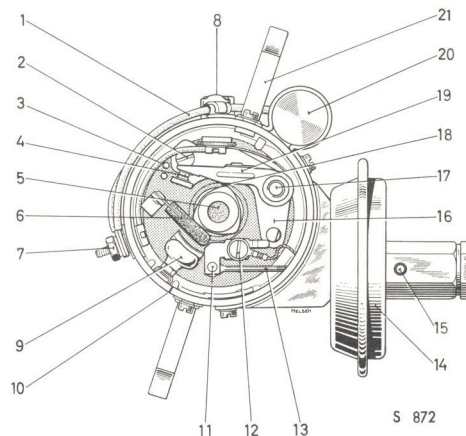

Figure 22. Ignition distributor
Contact points and gaps should be inspected every 6,000 miles (10,000 km). Be sure that the contact surfaces are clean and not so burned that they must be replaced. The correct gap of 0.3—0.4 mm (0.012—0.016 in.) should be checked with a feeler gauge when the breaker arm has been moved by the cams to its outermost position. Adjust the gap by unscrewing the lock screw 2, Figure 22, and move the stationary point until the correct gap is obtained. Tighten lock screw when gap is correct.
3. The indexes on the rotor should then coincide with the index on the distributor housing next to the guide lug on the tension spring attachment, 10 in Figure 22.